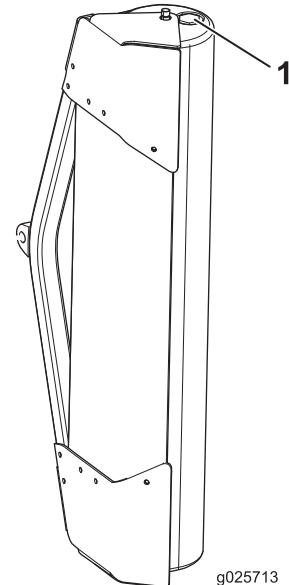

Figure 3
6. Using a flat screwdriver, remove the plug from the lawn striping trailer, fill it with approximately 9 kg (20 lb) of sand, and replace the plug (Figure 3).